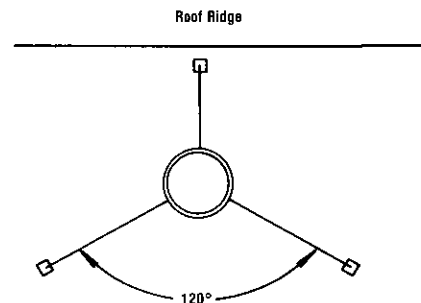

Figure 32
Note: If chimney extends more than 8 feet above roof line, guy wires are also recommended. Use three (3) guy wires, attach to locking band assembly, extend and secure to roof in a triangular pattern (Figure 32). Guy wires not supplied by Superior.